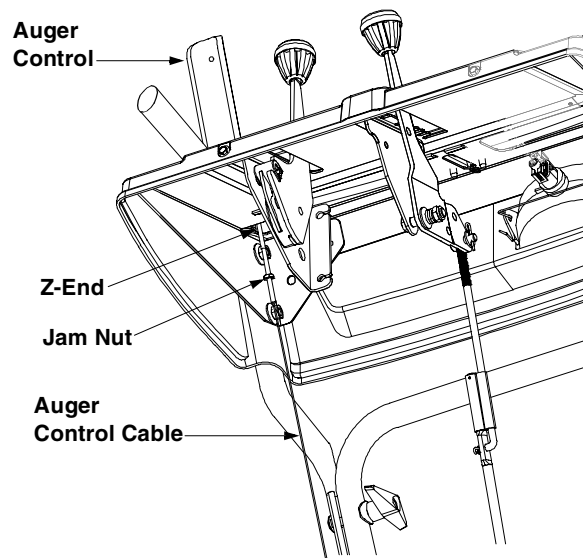

Figure 15
- Wrap the wire from the lamp down the right handle as shown in Figure 15.
- If adjustment is necessary, loosen the hex jam nut and thread the cable in (for less slack) or out (for more slack). See Figure 15.